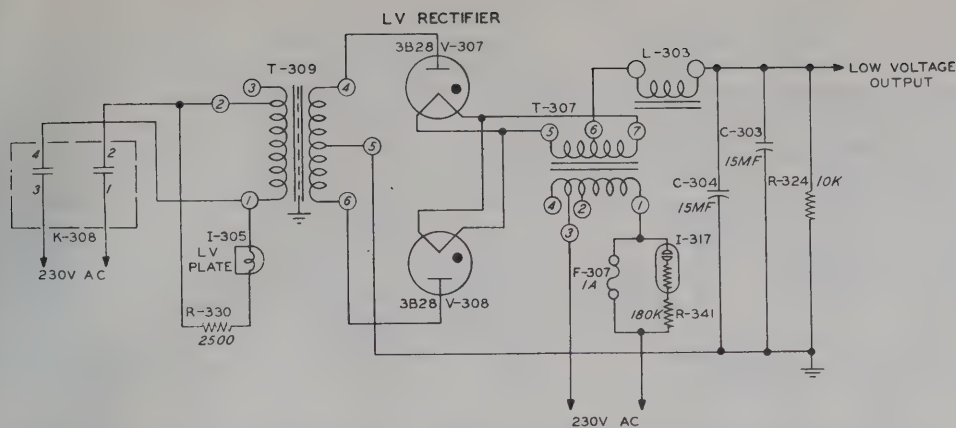

Figure 125. Power Supply Assembly PP-1088/FRT-26, Low-Voltage Supply, Schematic Diagram.
(2) *Low-voltage d-c supply (fig. 125).* Six hundred volts d-c for crystal oscillator, the frequency multiplier stages, and the driver screen grid, is developed by the low-voltage d-c supply. This supply is a conventional single-phase full-wave circuit utilizing two 3B28 rectifiers. A single section choke-input filter and a bleeder constitute the rest of the supply.